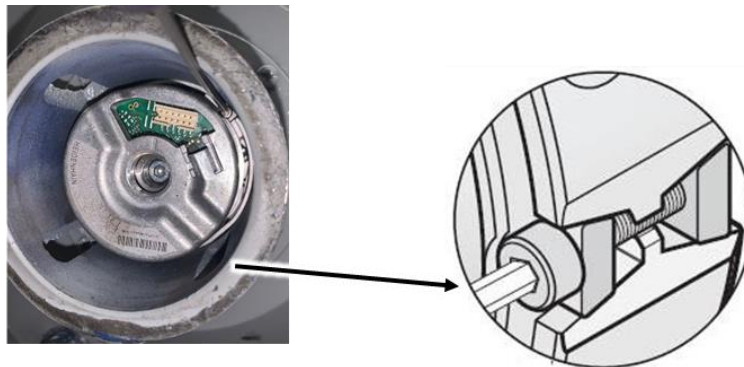

Figure 28
4. Rotate the encoder, it should be very flexible at this time, tighten the encoder locking screw according to 11 in-lbs. by a hex wrench so the encoder outer cannot rotate by hand. See Figure 28.